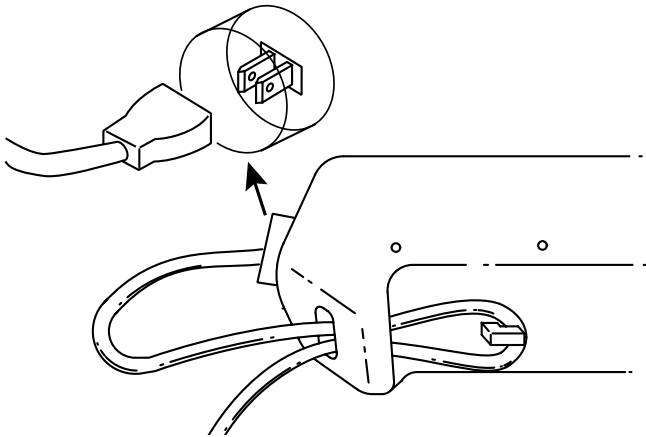

Fig. 5
1. Use the cord hook when you connect the extension cord to the power cord to prevent disconnection (Fig. 5). Use only an outdoor-approved extension cord as specified in the **Rules for Safe Operation** section.
2. Secure the extension cord to motor housing as shown (Fig. 5).